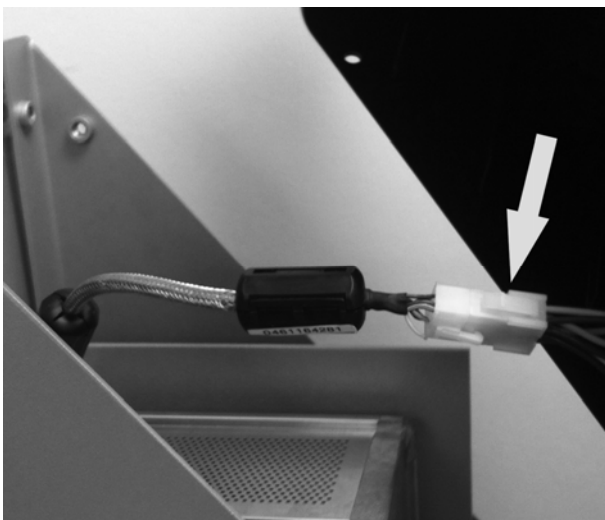
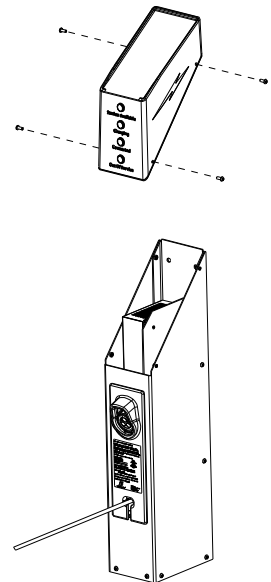

Figure 4 - LED cable harness connector
Figure 3 – Top Cover Removed
4. Remove 4 screws that attach the top cover to the charging base (use security hex bit provided). Retain screws separately for later installation. Gently lift the top cover ~6 inches. (See Figure 3) Disconnect LED cable harness connector from charging base harness by pressing release tab and pulling gently apart. (See Figure 4)